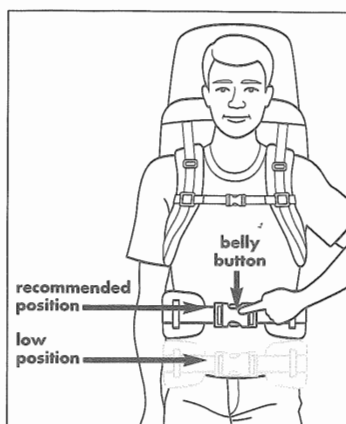

Figure 2A
B. NEXT, put the pack on and tighten the waistbelt. Make sure you place the waistbelt in the proper location (Figures 2A & 2B).
It is recommended to wear the belt on the hip bones, just under the rib cage. If you still prefer to wear the belt low, add one to two inches to your torso length measurement. Figure 2A shows both the preferred placement of the waistbelt and an example of a belt worn low. The low position is not recommended. Once positioned correctly, tighten the belt to prevent it from sliding. (A good rule of thumb is to have the belt buckle approximately over your belly button.)